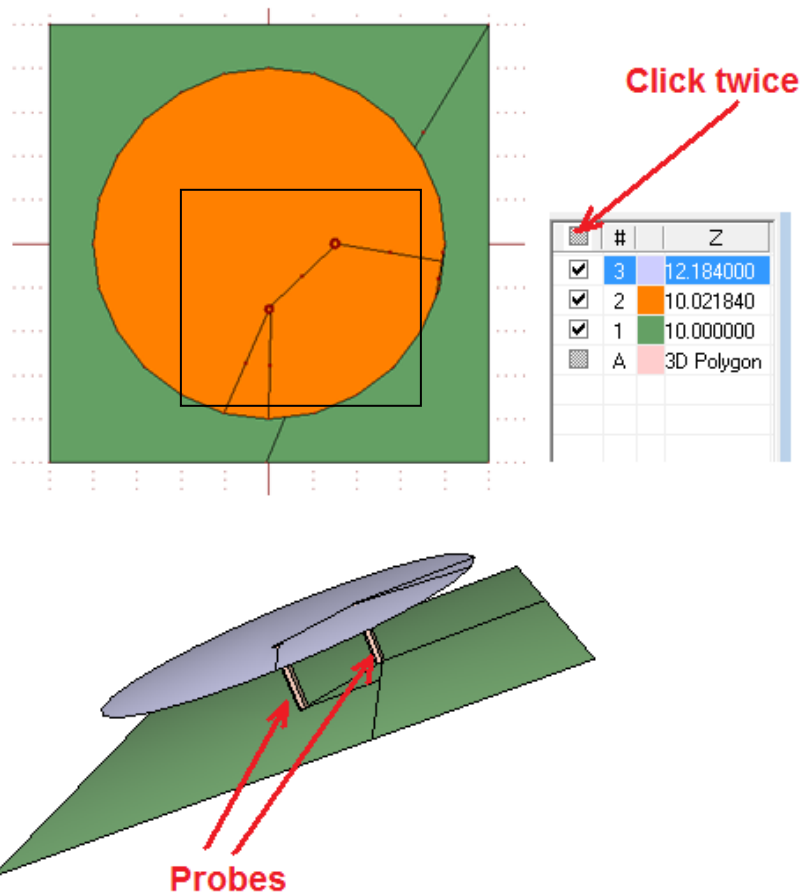

Fig. 21: Circular patch after ports are deleted
Although the ports are deleted the patch and ground plane remain connected by a probe as indicated in Fig. 21.
- >> Click Select All Layers checkbox twice (Fig. 21 in layout editor) to select all 3D metals on all layers